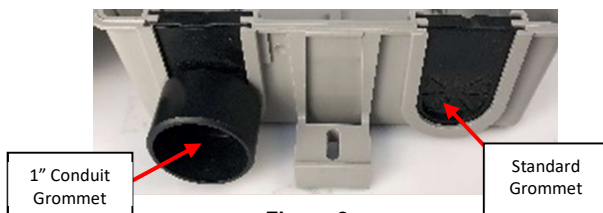

Figure 2
- a. To use with conduit, replace provided standard grommet(s) with optional 1" Conduit Entry Grommet(s) (Figure 2).